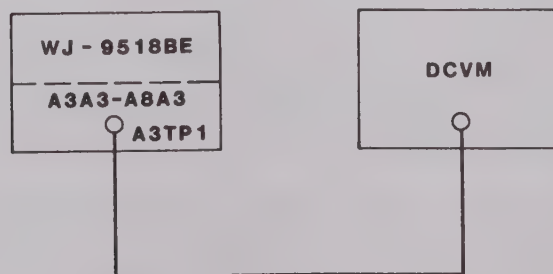

Figure 4-6. 1st LO Performance Test, Equipment Connections
1. Connect the test equipment as illustrated in **Figure 4-6**.